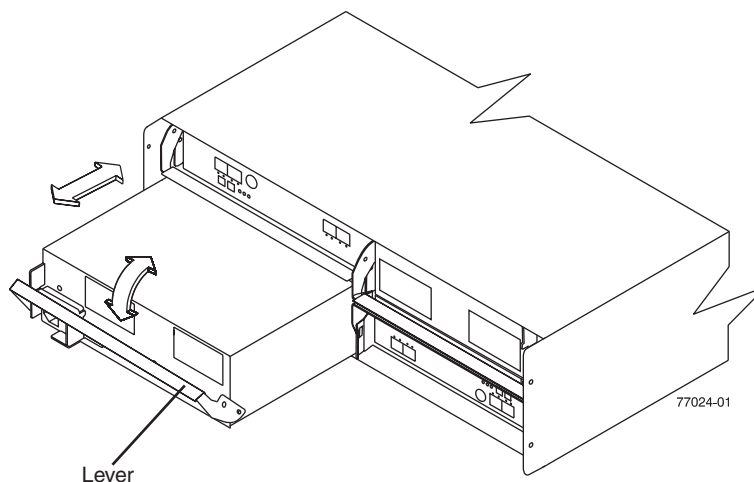

Figure 44. Replacing a power supply-fan
Use the following procedure to replace a power supply-fan. Figure 44 on page 88 illustrates removing and inserting a unit.
11. Slowly pull the lever away from the chassis to remove the power supply-fan, as shown in Figure 44 on page 88.